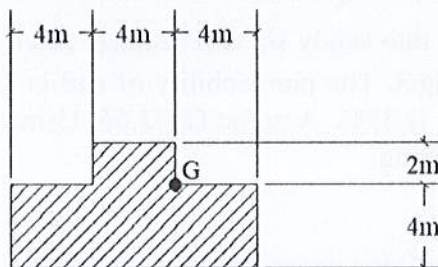

Fig. 1
2. a) What does it mean by peat soil? List the common rock forming minerals. (5)
- b) A "T" shaped foundation is loaded with a uniform load of 100kN/m² as shown in Fig.1. Estimate the vertical pressure at a point which is 7.0 m below the point "G". (10)